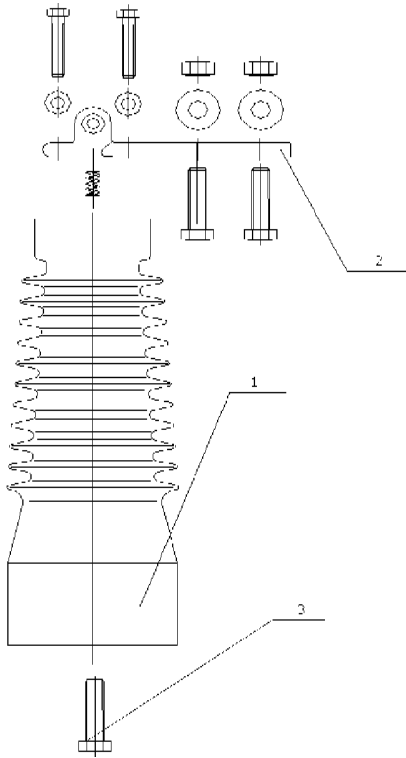

Fig. 24
15.3 Changing the supporting insulator (fig. 24)